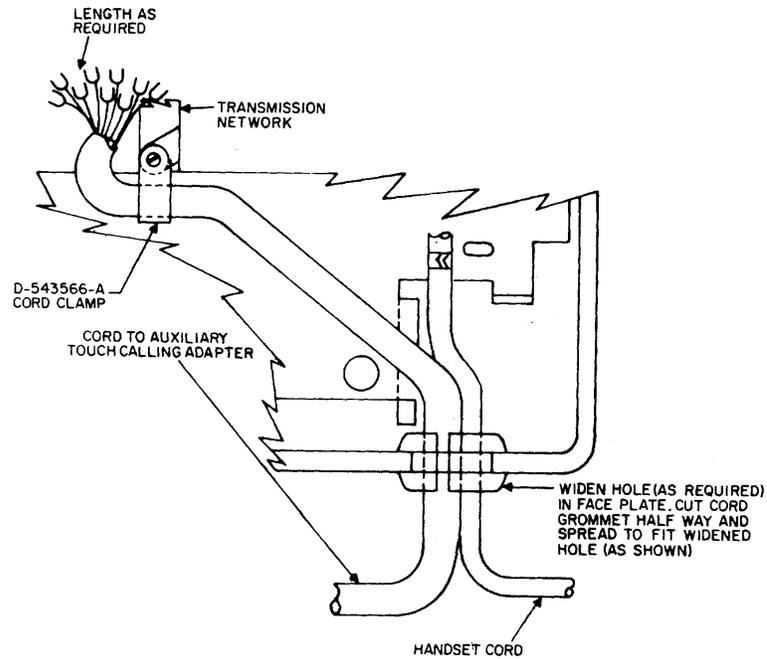

Figure 9. Routing and Securing Cord from Auxiliary Touch Calling Adapter to Type 95 Telephone.
- (a) Route and secure the cord to the Type 95 panel telephone as shown in Figure 9.